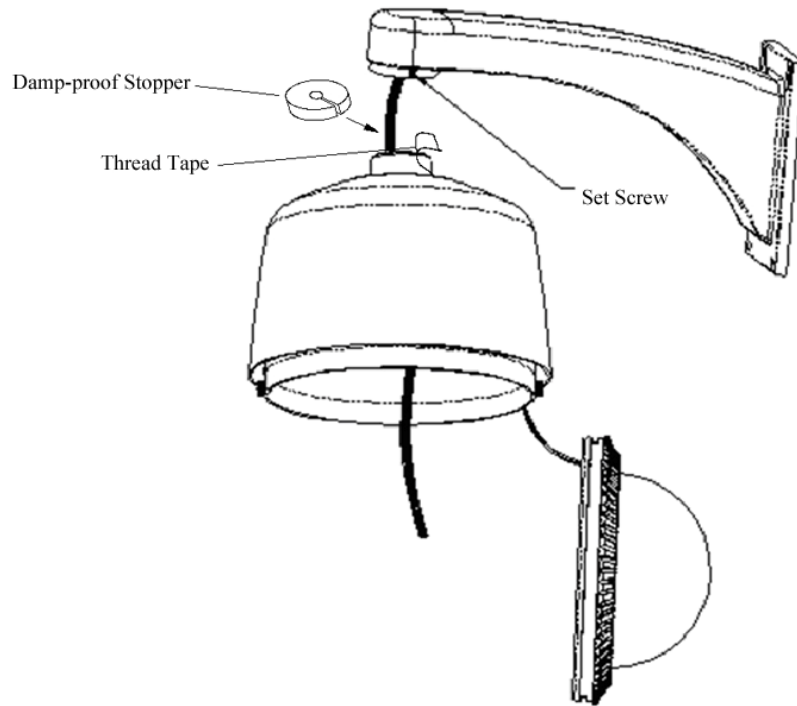

Figure 1.2.14 Attach Back Box to Mount
4. Install the back box. Open the interconnect board of the back box, and feed the cables through the top of the back box from the mount, and connect to the back board circuit board. Attach the back box to the mount and tighten the set screws (see Figure 1.2.14) to secure the back box. Connect all wiring and replace the interconnect board.